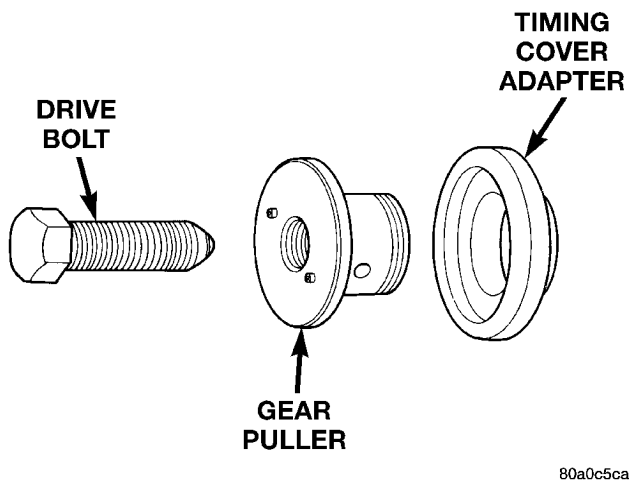

Fig. 36 Pump Gear Tools
(13) A special 3-piece gear removal tool set VM.1003 (Fig. 36) must be used to remove the injection pump drive gear from the pump shaft.